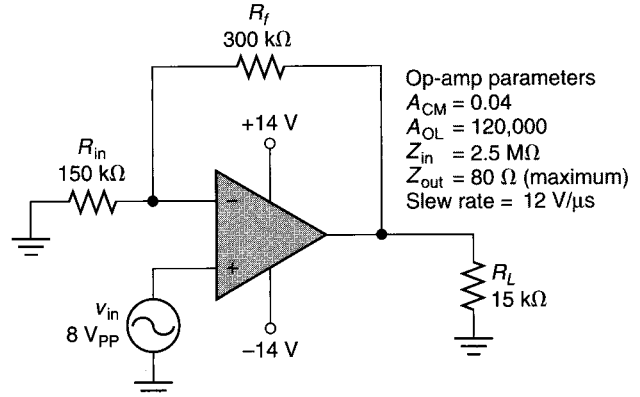

FIGURE 15.62
20. Perform a complete analysis of the amplifier in Figure 15.62.